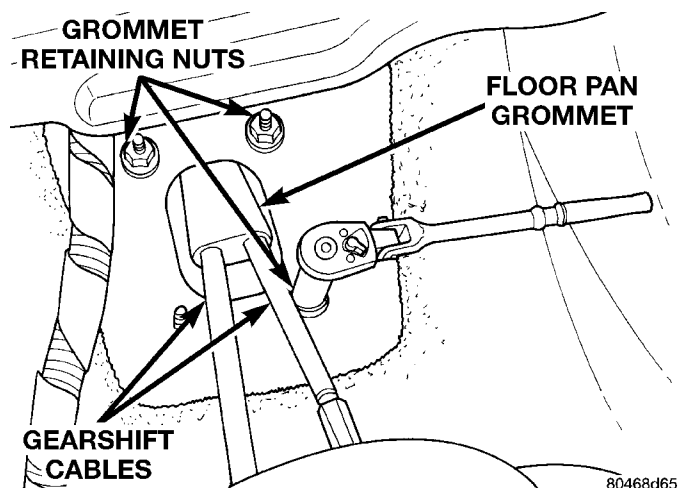

Fig. 12 Grommet Retaining Nuts (Interior)
(6) Pull cables up out of transaxle bracket.
(7) Remove console from vehicle. Refer to Group 23, Body.
(8) Remove floor pan grommet retaining nuts (Fig. 12).